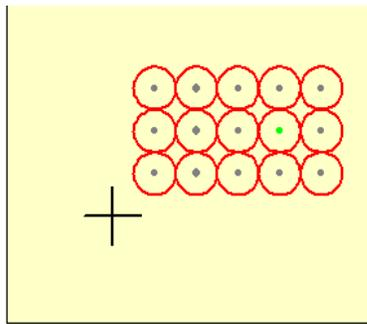

Figure 21-13: Missing Circle Inserted in Place
6. Figure 21-13 shows the circle inserted in place. In the Instruction List, what was previously Instruction 8 is now Instruction 9. That instruction line and its corresponding data point on the data preview window remain highlighted.